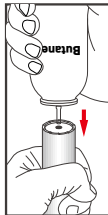

Fig.1
1. Hold butane canister upside down when filling (Fig. 1)